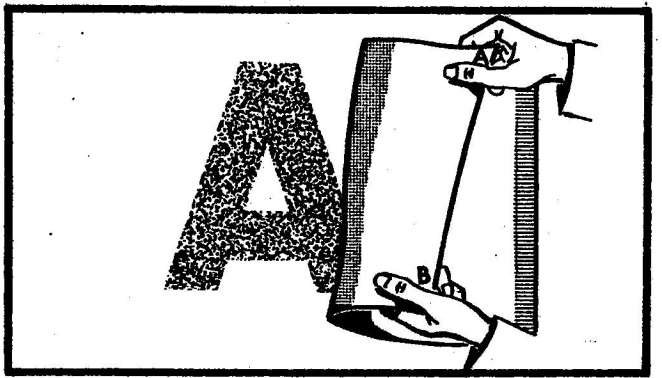

Figure 6
- (j) Lift corners marked A and B in Figure 6, and carefully pull the application tape (Item 4) from the decalcomania.